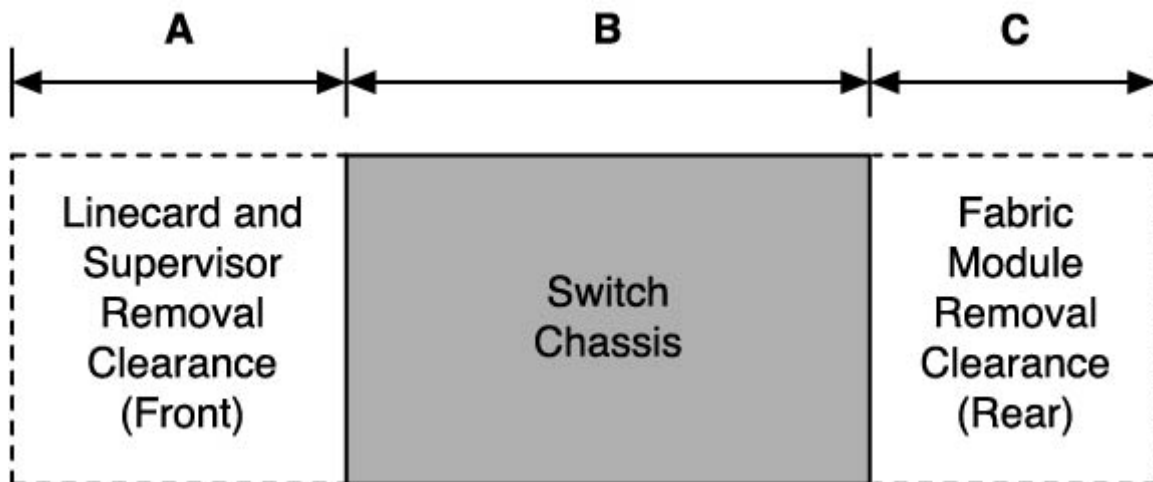

Figure 1: Clearance Requirements and Footprint for Switches
- Figure 1: Clearance Requirements and Footprint for Switches displays the dimensions and footprint of the switch clearance requirements for the switches.